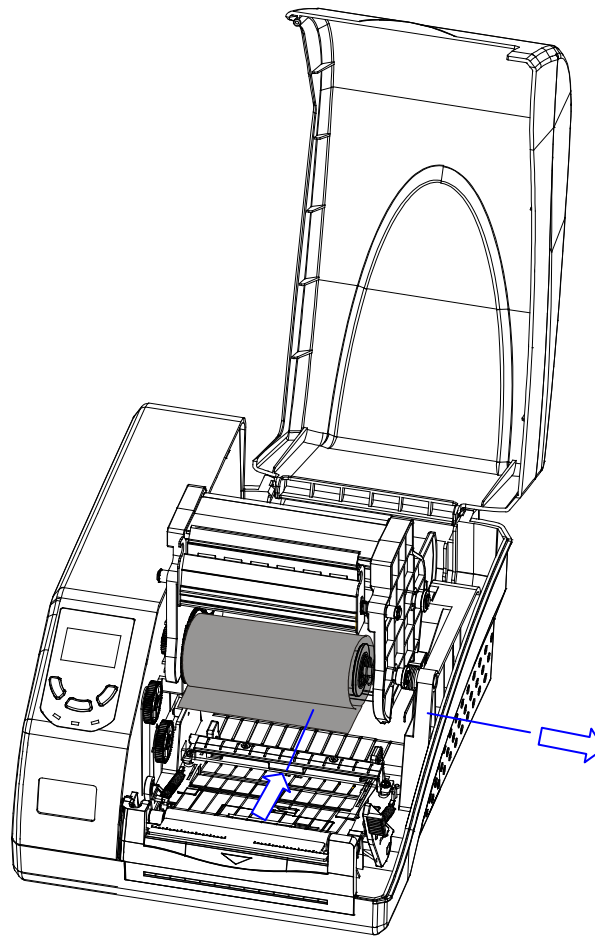

Figure 5-4
5. Load the Ribbon Spindle into the printer and route the ribbon through the Printhead Module (see Figure 5-4).